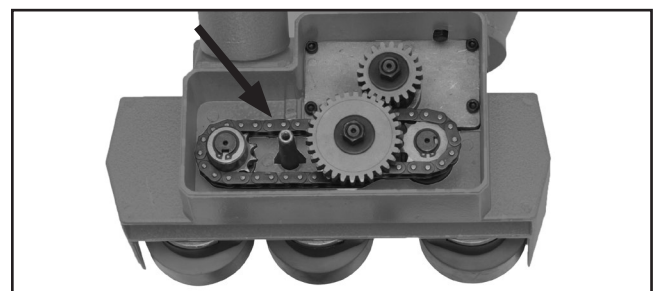

Figure 15. Sprockets, chain, and change gears.
- As required to prevent rust, binding, and dry spots, brush the sprockets, chain, and change gears (see Figure 15) with a light film of an automotive grade GL-2 grease.